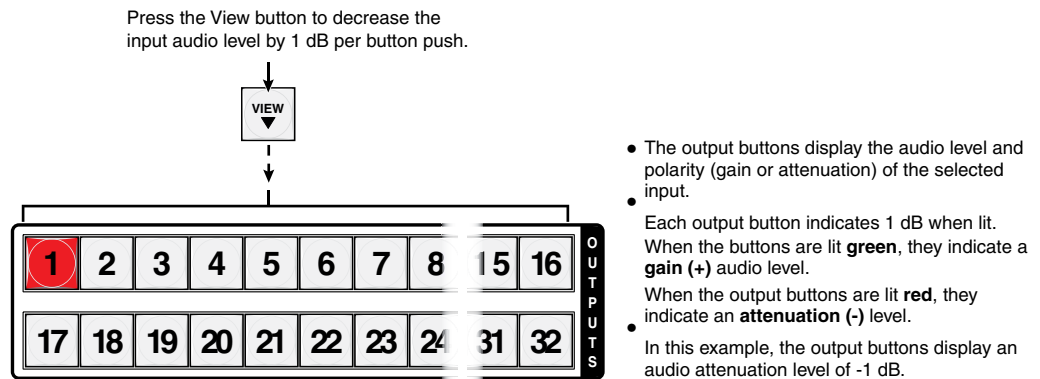
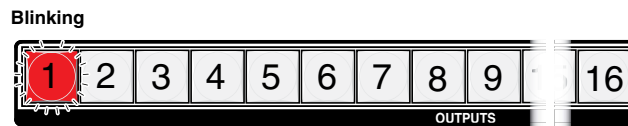

Figure 42. Adjust the Analog Input Audio Level
Figure 43. Level Display on a 16-output-button Switcher
4. **Change the audio level:** Press and release the View (▼) button once (see figure 42) to decrease the input audio level by 1 dB.
Press and release the View (▼) button several more times (see figure 42) to decrease the input audio level by 1 dB per button press. Note the output button indication changes that occur each time the View (▼) button is pressed.
Figure 42 shows the result of pressing the View (▼) button a total of nine times, an audio attenuation level of -1 dB. Note that the level is now displayed in red to indicate a negative level.
Figure 43 shows the same level (-1 dB) as in figure 42, but displayed on a 16-output-button switcher, such as a MAV Plus 1616 A.
Figure 44 shows the same level (-1 dB) as in figure 42, but displayed on a 8-output-button switcher, such as a CrossPoint Ultra 128 HVA.